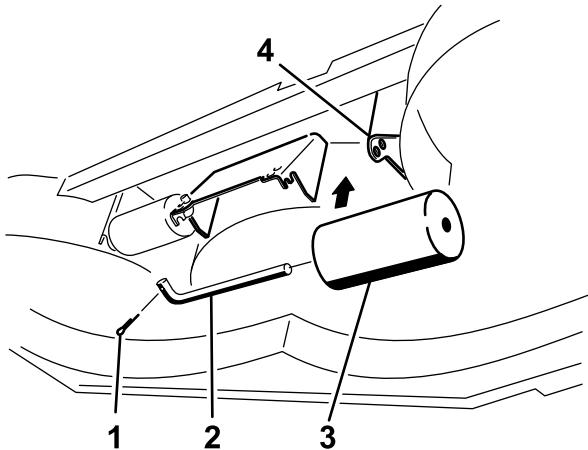

Figure 32
4. Remove the fasteners securing each roller on your mower deck and move the rollers up or down as desired; refer to Figure 28 through Figure 32 as applicable for your mower.